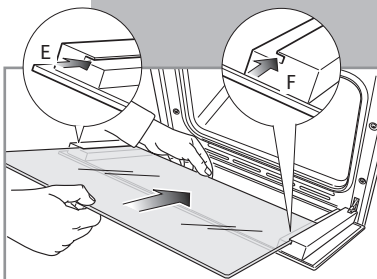
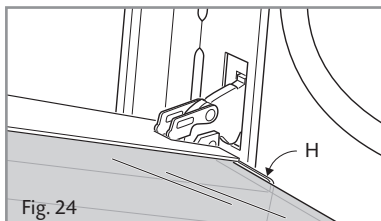

Fig. 23
Fig. 24
- Insert the pane in the left **E** and right **F** slide guides (fig. 23), and gently slide it to the retainers **H** (fig. 24).